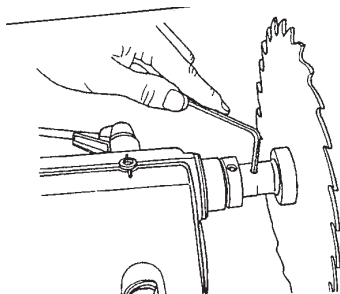

Figure C-54
61. Use the 5/32" Allen wrench to loosen the arbor set screw. Remove the saw blade. See Figure C-54.